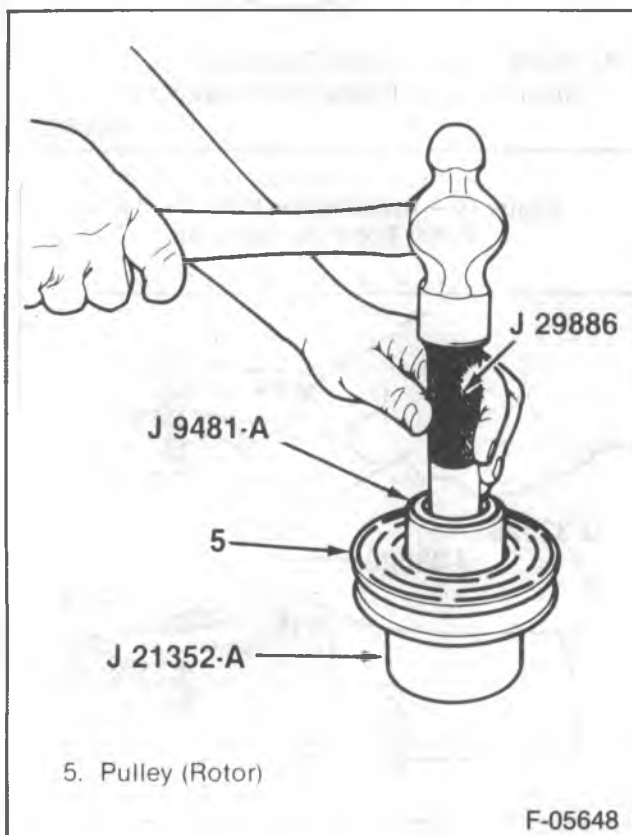

Figure 13 — Installing the Pulley Rotor Bearing
2. Pulley bearing (4) into the hub using J 29886, J 9481-A and J 21352-A (figure 13).